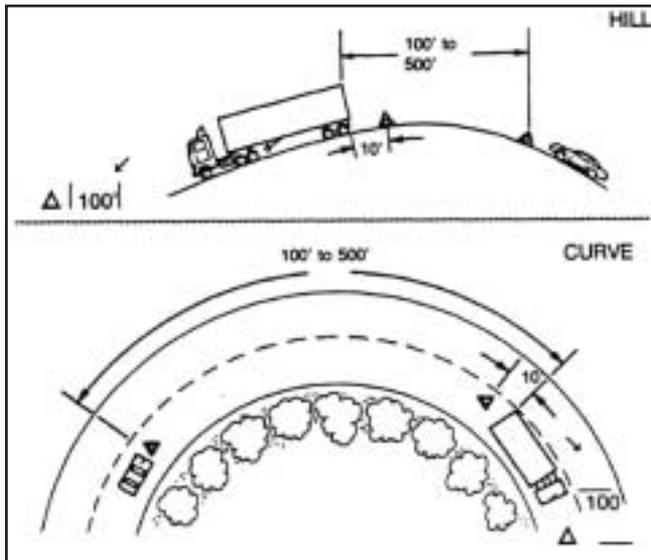

Figure 2-9
- Back beyond any hill, curve, or other obstruction that prevents other drivers from seeing the vehicle within 500 feet. (See Figure 2-9.)